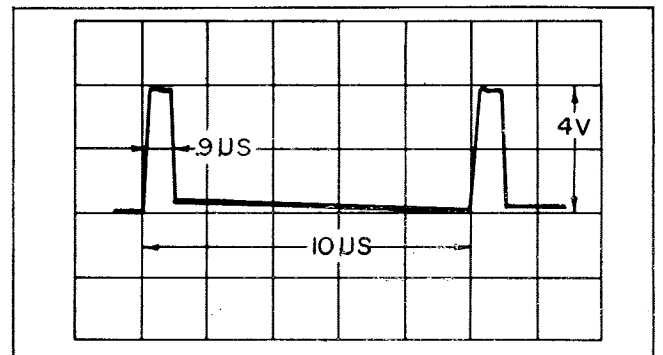

Figure 6.12 - Q16, Base Waveform
f. Reconnect oscilloscope to base of 100 KC buffer amplifier Q16 (or top of R14). The observed waveform should resemble the one shown in figure 6.12.
d. Connect oscilloscope to the junction of R13 and R14. Set R11 to the center of the range which results in a waveform with time between pulses equal to and amplitude close to those shown in figure 6.12. For example, if the time between pulses is correct over a range of 3 1/2 turns of R11, set R11 exactly 1 3/4 turns from the setting at which the time between pulses jumps to the next longer or next shorter value.